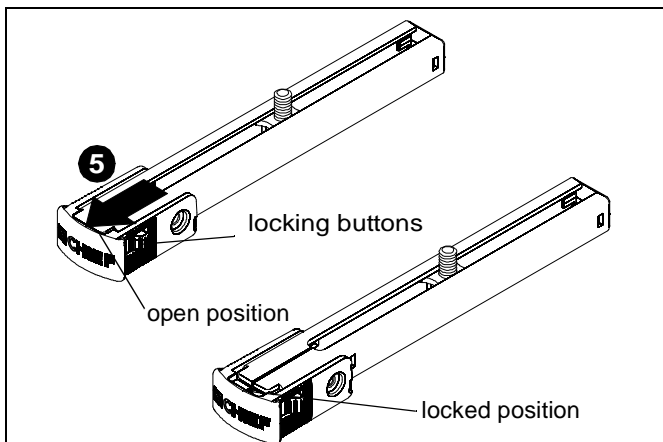

Figure 5
- Press locking buttons on SLBU/SLMU leg (B) firmly and simultaneously push clip cover away from enclosed sliding stud mount bracket until clip cover is in the locked position. (See Figure 5)